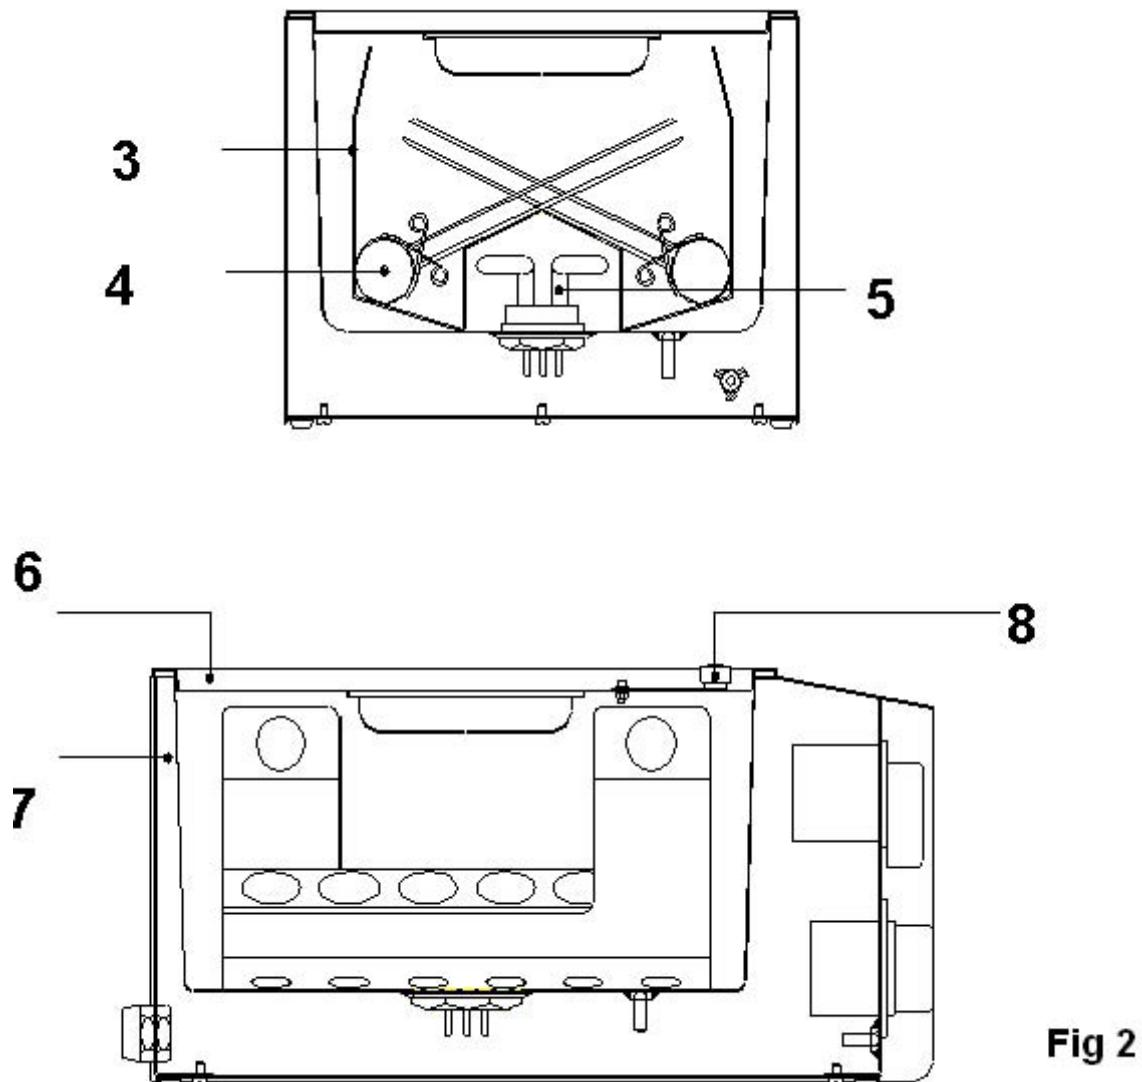

Fig 2
- 4.5.2 Carefully place the Le Chatelier moulds (4) complete with cement samples on to the rack (3) as shown in Fig. 2 and carefully lower the rack into the bath.